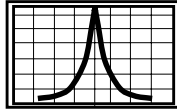
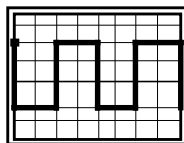

Figure 9-2: Correct Silent Carrier Wave Form
Figure 9-3: Modulation Wave Form
8. Key the transmitter with silent carrier. From the READY prompt, press <ALGN>. Press <down arrow> to access KEY AND READ POWER and observe the analyzer display. The image should have a precise peak (see Figure 9-2).
12. If the image on the analyzer is a precise peak (see Figure 9-2), configure the analyzer to display modulation. Key the transmitter for high speed data. The image at the analyzer should be a square wave form (see Figure 9-3).